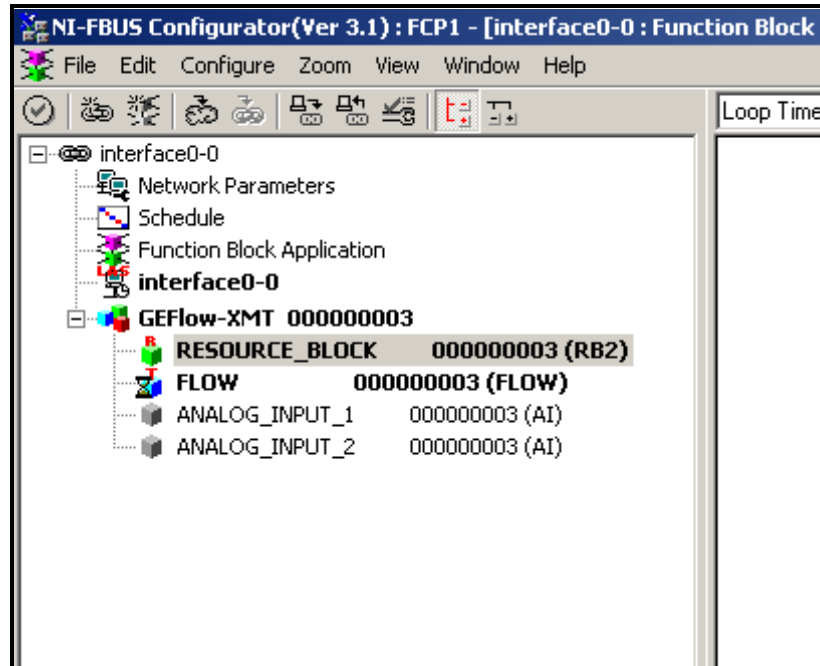

Figure 40: Configuration Utility Setup Example
Figure 40 below shows the Configuration Utility with a flowmeter on the network (Panametrics Flow-XMT).
1. Double click on the AI block for which you wish to set the units (ANALOG_INPUT_1 or ANALOG_INPUT_2 in the tree under GEFLOW-XMT; see Figure 40 on page 114).
1. Double click on the FLOW transducer block (in the tree under GEFLOW-XMT; see Figure 40 on page 114).